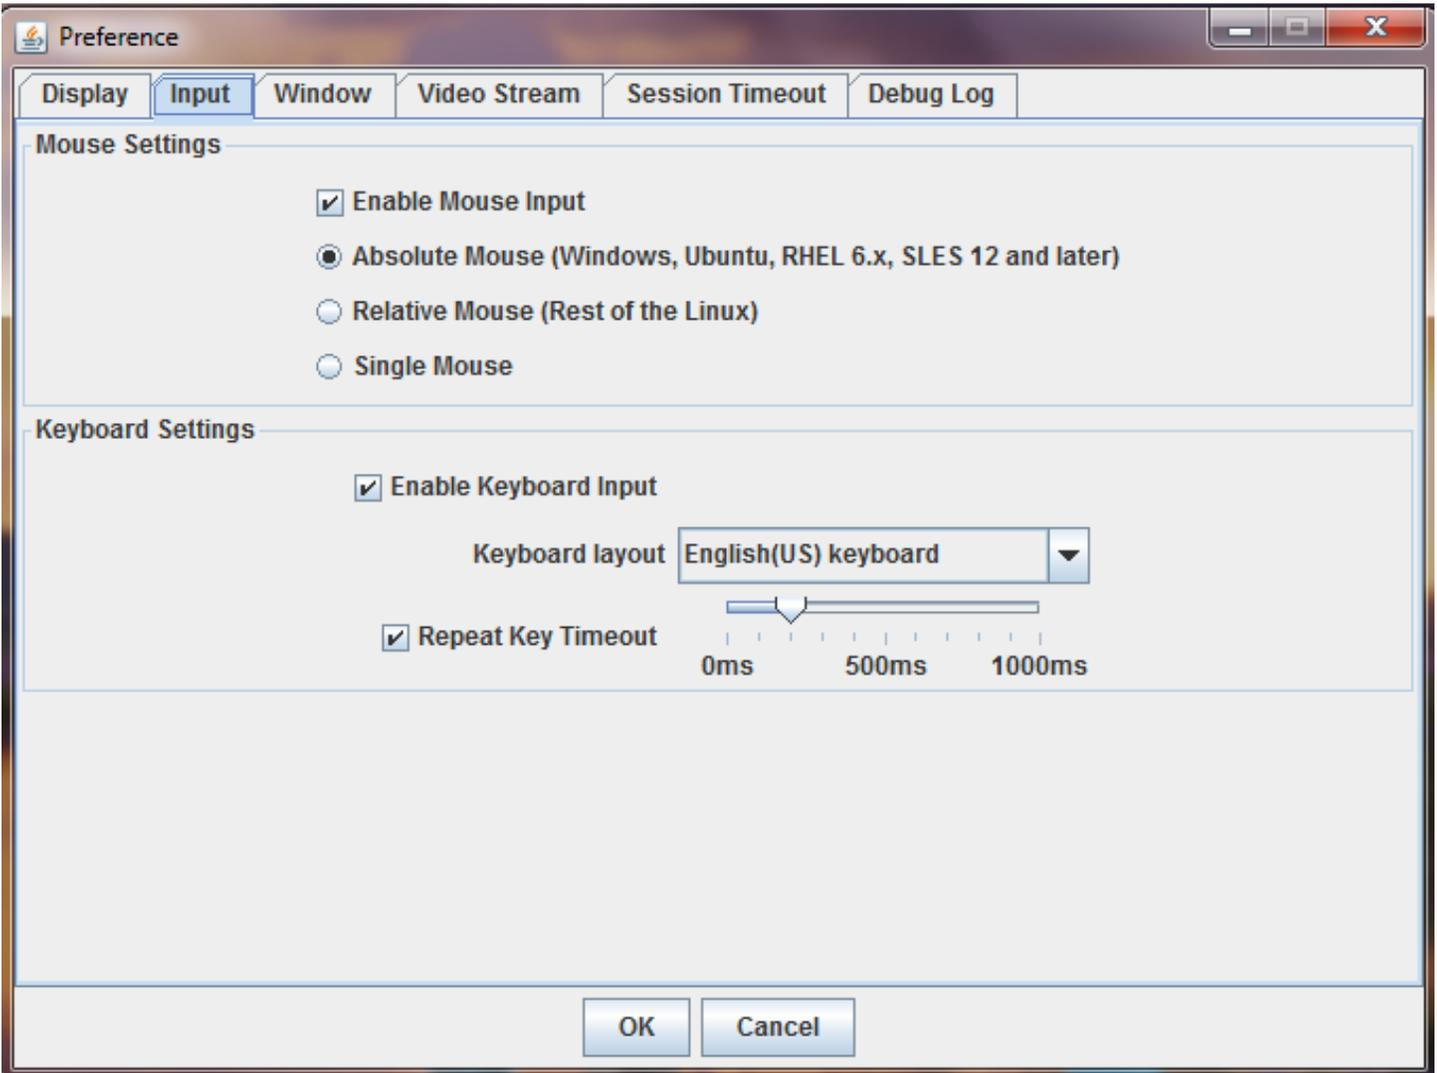

Figure 24. Remote Console Input Settings
- **Input** (Figure 24) – Enable/disable mouse/keyboard input, change the mouse mode, specify keyboard layout, and set repeat key timeout.